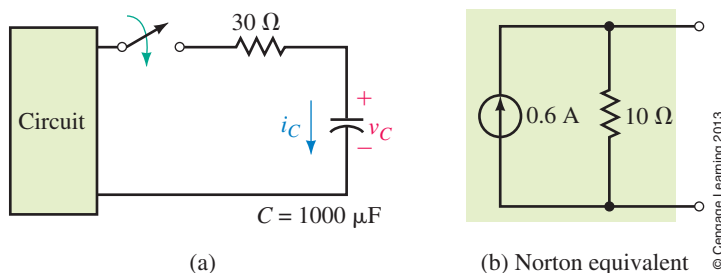

FIGURE 11–33 Hint: Use a source transformation.
3. For the circuit of Figure 11–18, suppose $R = 10\text{ k}\Omega$ and $C = 10\text{ }\mu\text{F}$:
5. The switch of Figure 11–33(a) is closed at $t = 0\text{ s}$. The Norton equivalent of the circuit in the box is shown in (b). Determine expressions for v_C and i_C . The capacitor is initially uncharged.
A **pulse** is a voltage or current that changes from one level to the other and back again as in Figure 11–34(a) and (b). A **pulse train** is a repetitive stream of pulses, as in (c). If a waveform's high time equals its low time, as in (d), it is called a **square wave**.
The width, t_p , of a pulse relative to its period [Figure 11–34(c)] is its **duty cycle**. Thus,
A square wave [Figure 11–34(d)] therefore has a 50% duty cycle, while a waveform with $t_p = 1.5 \mu\text{s}$ and a period of $10 \mu\text{s}$ has a duty cycle of 15%.
In practice, waveforms are not ideal, that is, they do not change from low to high or high to low instantaneously. Instead, they have finite **rise** and **fall times**. Rise and fall times are denoted as t_r and t_f and are measured between the 10% and 90% points as indicated in Figure 11–35(a). **Pulse width** is measured at the 50% point. The difference between a real waveform and an ideal waveform is often slight. For example, rise and fall times of real pulses may be only a few nanoseconds and when viewed on an oscilloscope, as in Figure 11–35(b),